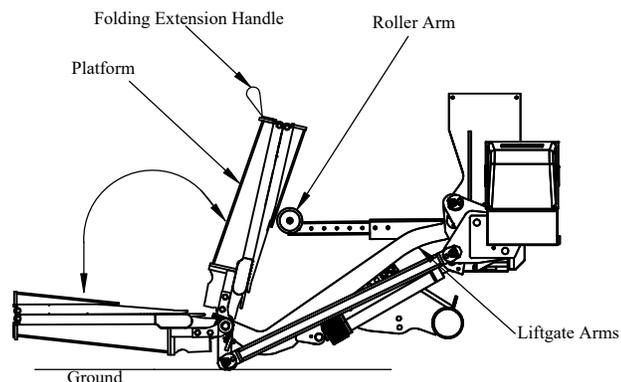

Figure 41: Step 10.
- With the liftgate arms touching the ground, stand to the side of the platform, and fold the platform closed until it rests on the roller arm (Figure 41).